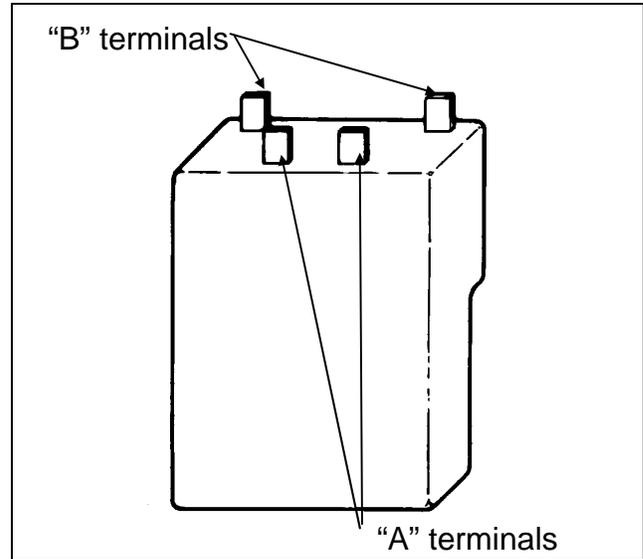

Figure B-2. Thermostat Terminals.
3. Connect the continuity tester across the B terminals indicated in Figure B-2. This set of contacts should be closed whenever the thermostat is on. To test, start with the thermostat in the OFF position. Then turn the thermostat up until you hear a distinct click (at about the 175° F/79° C setting). At this time, there should be continuity across the B terminals.
4. Connect the continuity tester across the A terminals indicated in Figure B-2. Start with the thermostat in the OFF position and turn the thermostat up until you hear a distinct click. If there is no continuity (the indicator or light does not come on), proceed to step 5.